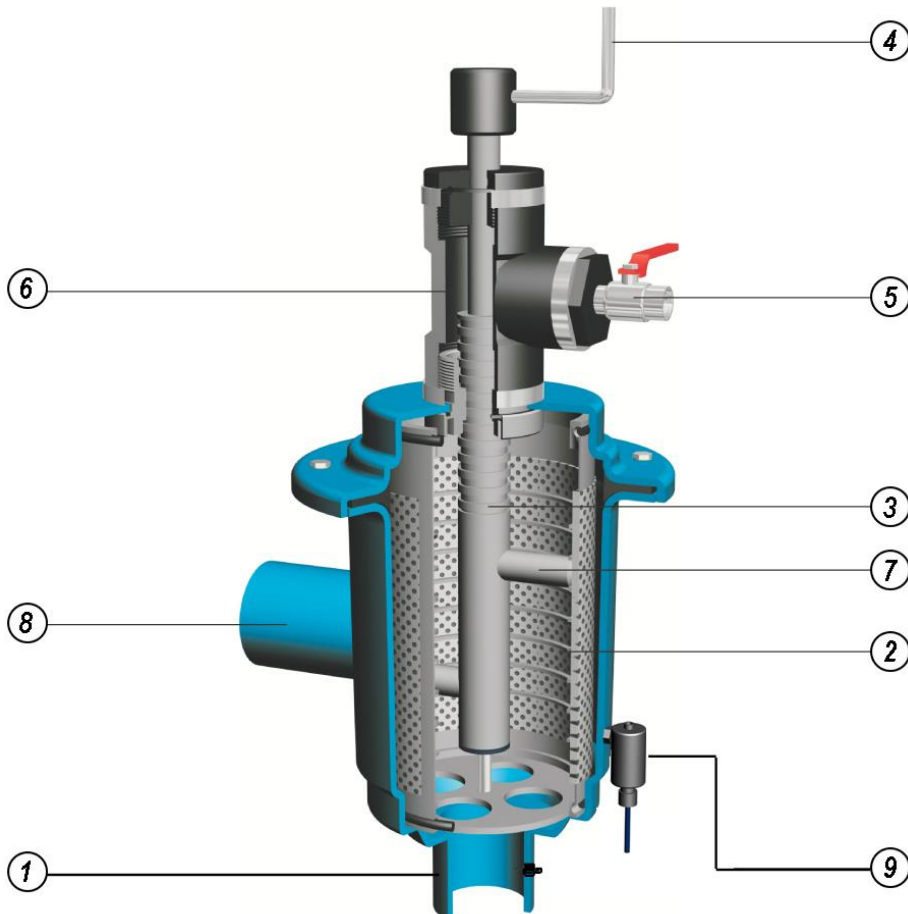

Figure 1: Filter Assembly
4. Filter Operation General Description (Figure 1)